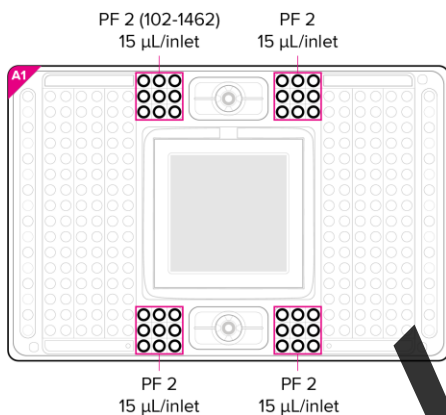

Figure 7. Pipetting map for PF 2
- 1 Pipet 15 μL of Advanta Dx PF 2 (102-1462) in the 36 inlets (O) adjacent to each accumulator, as shown in Figure 7.